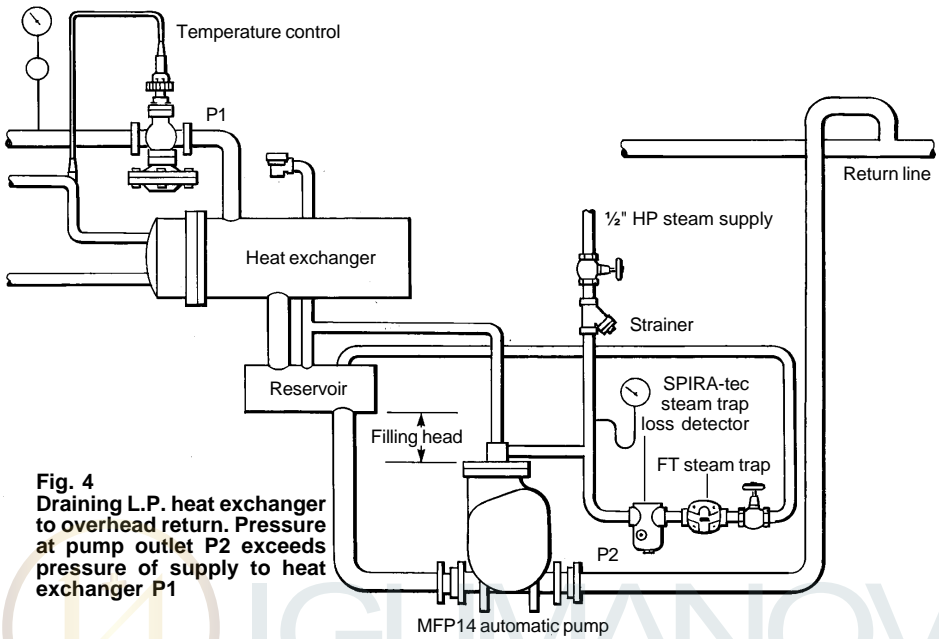
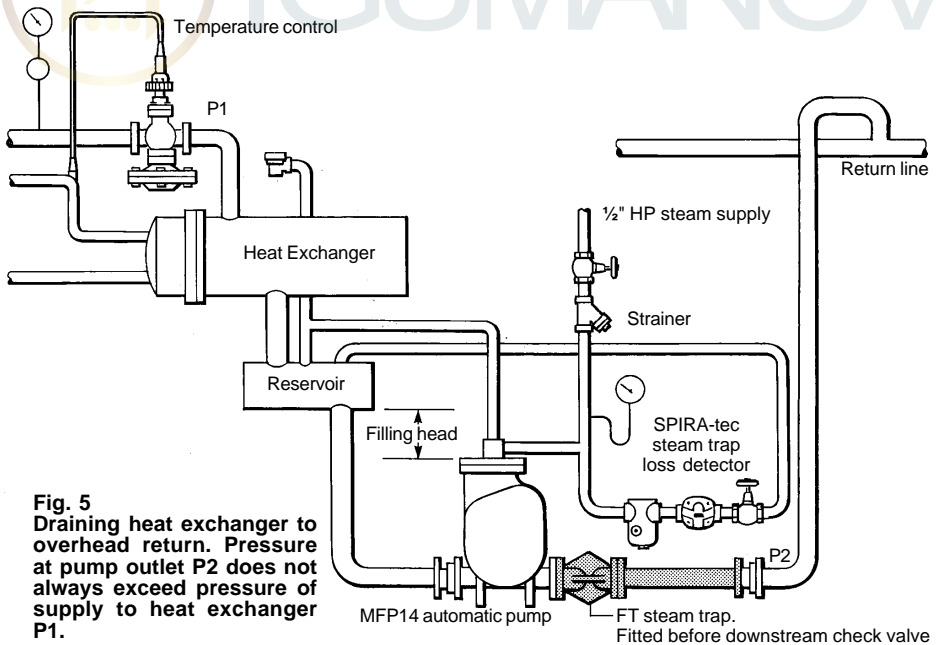

Fig. 4
Fig. 5
1. Install the pump below the equipment being drained with the exhaust connection vertically upwards. The pump should be installed with the recommended filling head (vertical distance between the top of the pump and the bottom of the reservoir/receiver) as shown on Figs 4 and 5. For other filling head variants, refer to separate capacity chart.
2. To prevent equipment flooding during the pump discharge stroke, a receiver or reservoir pipe should be installed in a horizontal plane ahead of the pump as shown in Fig 4. For proper receiver/reservoir sizing refer to 'Inlet Piping' table shown on Page 7. All inlet fittings must be full bore.
3. Connect the check valves (12) and (12a) to the pump, making sure that the flow through the valves is in the correct direction. For the best performance, horizontal piping runs immediately ahead of the inlet check valve and after the discharge check valve should be kept to a minimum. Connect the discharge to the return main or other installation point.
6. If, at any time, the back pressure against the pump is less than the pressure in the equipment being drained, a properly sized float and thermostatic trap must be installed between the pump and discharge check valve as shown in Fig 5.